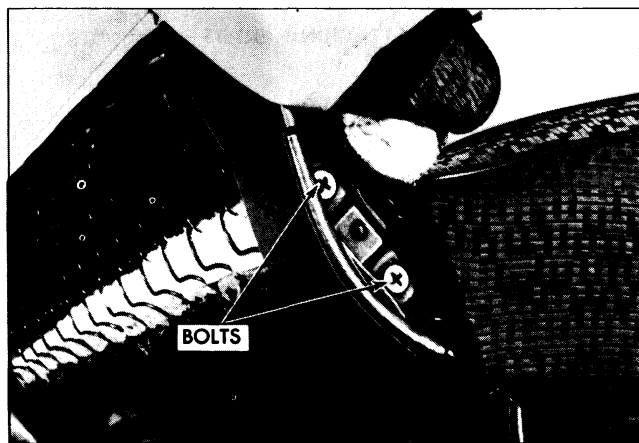

Fig. 17-3 Seat Back Attaching Bolts
4. Remove hog rings securing lower edge of seat back trim from seat bottom frame at each end of seat. Then raise trim to expose bolts securing seat back bottom frame (Fig. 17-3).